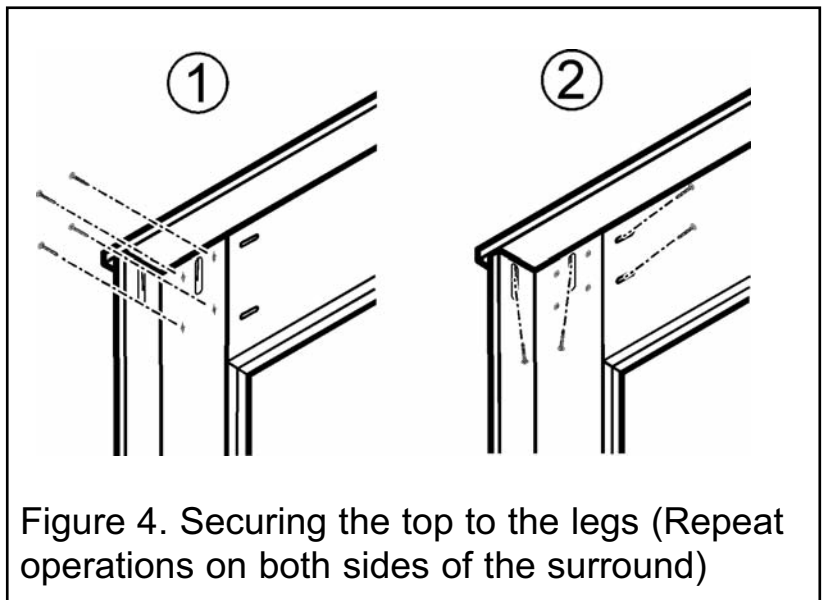

Figure 4. Securing the top to the legs (Repeat operations on both sides of the surround)
- Locate and secure 8 off (C) screws as in point 1 of figure 4.
- Locate and secure 8 off (D) screws as in point 2 of figure 4.